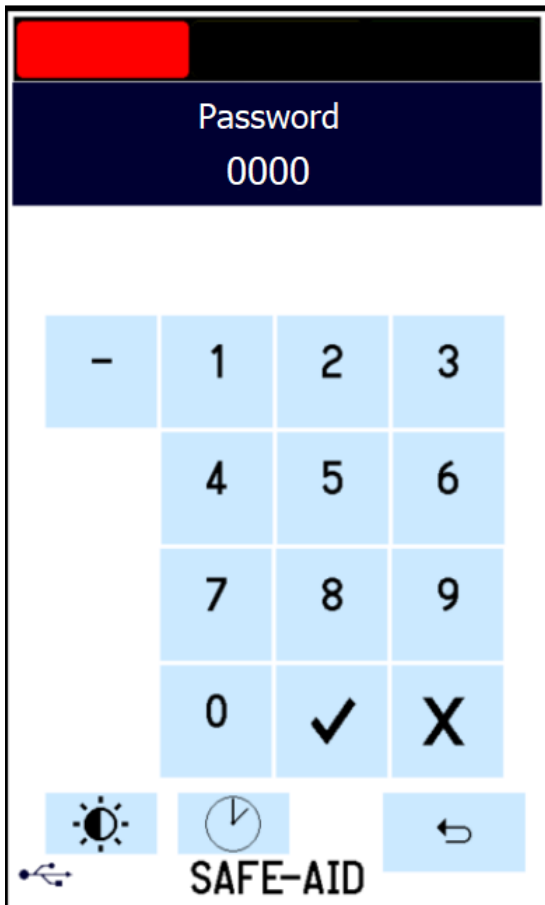

Figure 25
PROGRAM & REEVING LOCKOUT - FIGURES 25, 26, 27 & 28
1. Press the top left-hand corner and the **Password** screen will be displayed (figure 25).